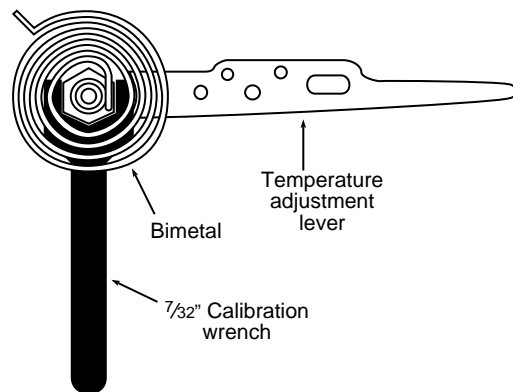

Figure 10. Calibrating thermostat
3. Remove thermostat cover. Slip  $\frac{7}{32}$ " wrench onto hex nut beneath bimetal (see fig. 10). While holding temperature adjustment lever stationary, turn hex nut clockwise until movable contact moves off of magnet.
7. Slip  $\frac{7}{32}$ " wrench onto hex nut (see fig. 10). While holding temperature adjustment lever stationary, turn hex nut counterclockwise until movable contact just closes against magnet.